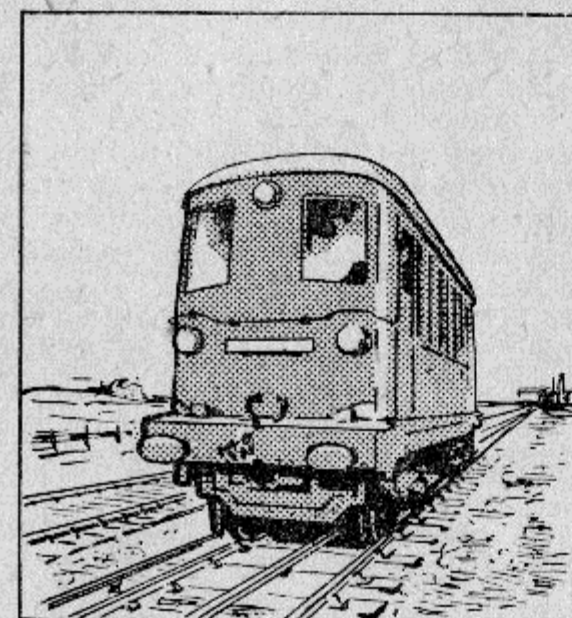

Fig. 9
Assume that we photograph an electric locomotive, 30 ft. long, and the effect obtained is as in Fig. 9. The perspective is such that the further end appears half the size of the nearer end—indicating that the camera was twice as far away, i.e. 30 ft. from the cab front. The plan view of the arrangements is as in Fig. 10 (a), and assuming we use a lens of 6 in. focal length the image distance (v) of the front end will be from (2)